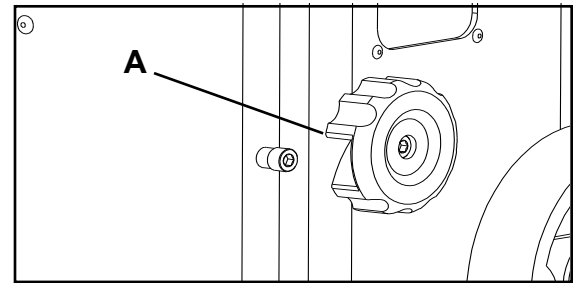

Figure 14
- Open the top and bottom wheel doors by turning the door locking knobs. (A-Fig.14)